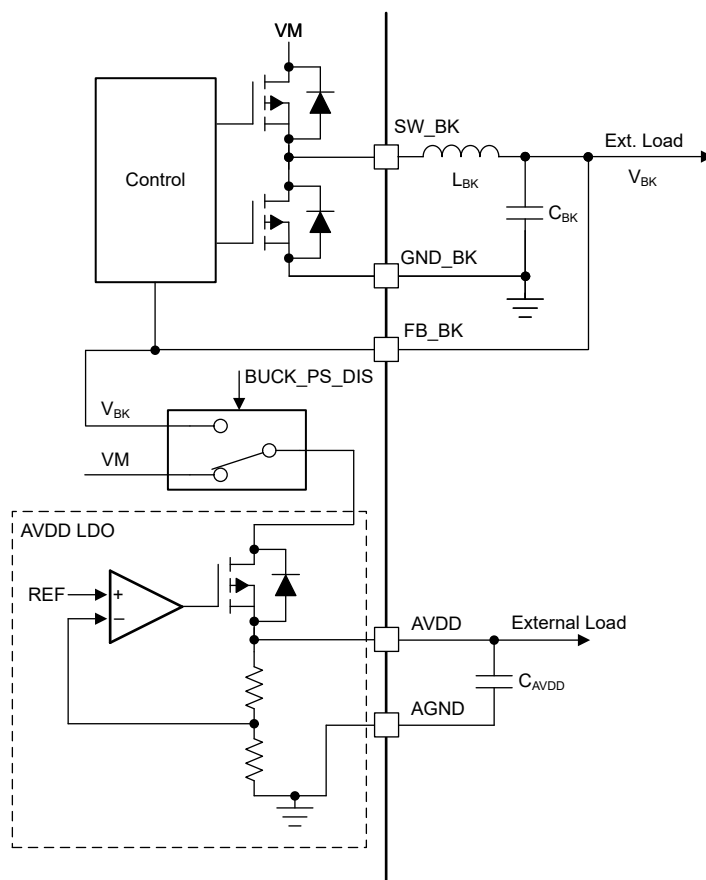

図 6-5. AVDD Power Sequencing from Mixed Mode Buck Regulator
The AVDD LDO has an option of using the power supply from mixed mode buck regulator to reduce the device power dissipation. The power sequencing mode allows on-the-fly changeover of AVDD LDO input from DC mains (VM) to buck output (V_{BK}) as shown in Figure 6-5. This sequencing can be configured through the BUCK_PS_DIS bit. Power sequencing is supported only when buck output voltage is set to 5-V or 5.7-V.